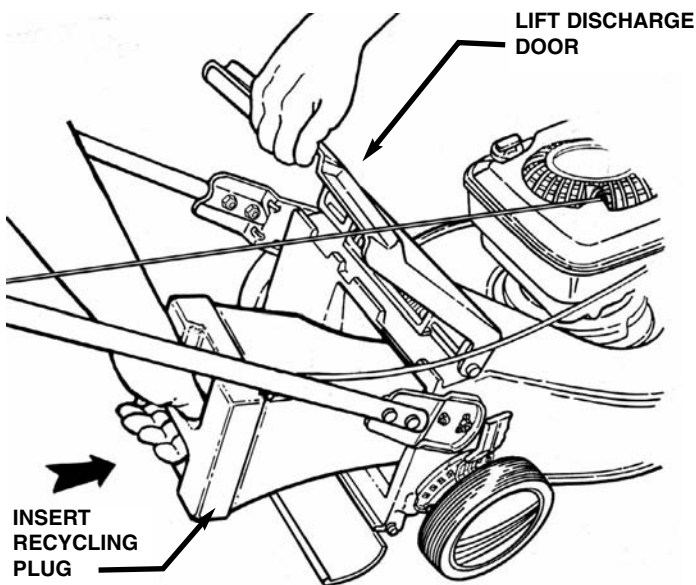

FIGURE 2.7
1. Pull the cutting height adjusting handle outward and move to desired cutting height. See Figure 2.7.
Converting this mower to the recycling operation requires no tools. First, STOP engine. Raise discharge door located at rear of machine. Remove grass catcher. Insert recycling plug fully into discharge opening. Allow discharge door to close. See Figure 2.7.